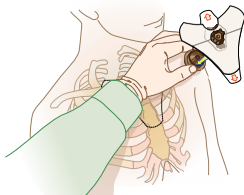

FIGURE 3
6. **Remove sternal locator needle cap and pull tab 1.** (See Figure 3)